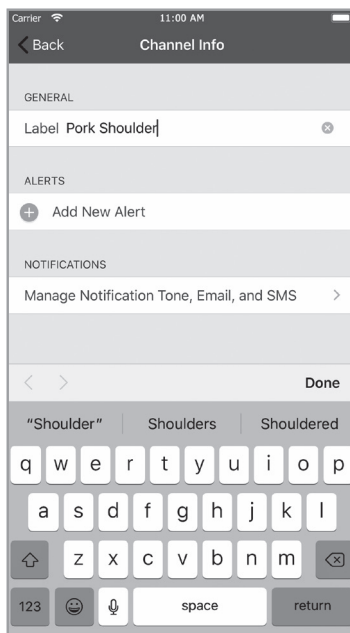

FIG 34
- The names of the two probe ports can be set according to what you're cooking. Tapping on the probe port in the grey banner will allow you to change its name (**FIG 34**). This name will also be used in the various charts throughout the app.
- An alert – in the form of an app alert, an SMS text message, or an email – can be set to let you know when one of the meat probes are at a certain temp. Simply tap on the temperature shown for the probe in the gray banner, tapping “Add New Alert,” then “Set-up Alert” and set up your parameters (**FIG 34, 35**).